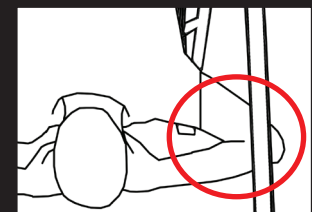

Fig. 16
**USE CAUTION:** Elbows protruding over the sides of the table bed could get pinched between the A-frame and the Table Bed as you return upright (Figure 16).